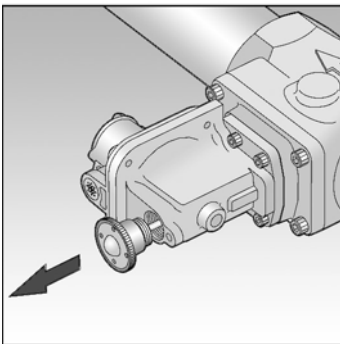

Fig. 9
17. Re-cock OPSS device by unscrewing reset spindle end cap and firmly pull. Hold in this position until the outlet pipework is fully pressurised, then release reset spindle end cap gently. Re-screw reset spindle end cap into body. See Fig. 9.
25. Re-cock UPSS device by unscrewing reset spindle end cap and firmly pull. Hold in this position until the outlet pipework is fully pressurised, then release reset spindle end cap gently. Re-screw reset spindle end cap into body. See Fig. 9.